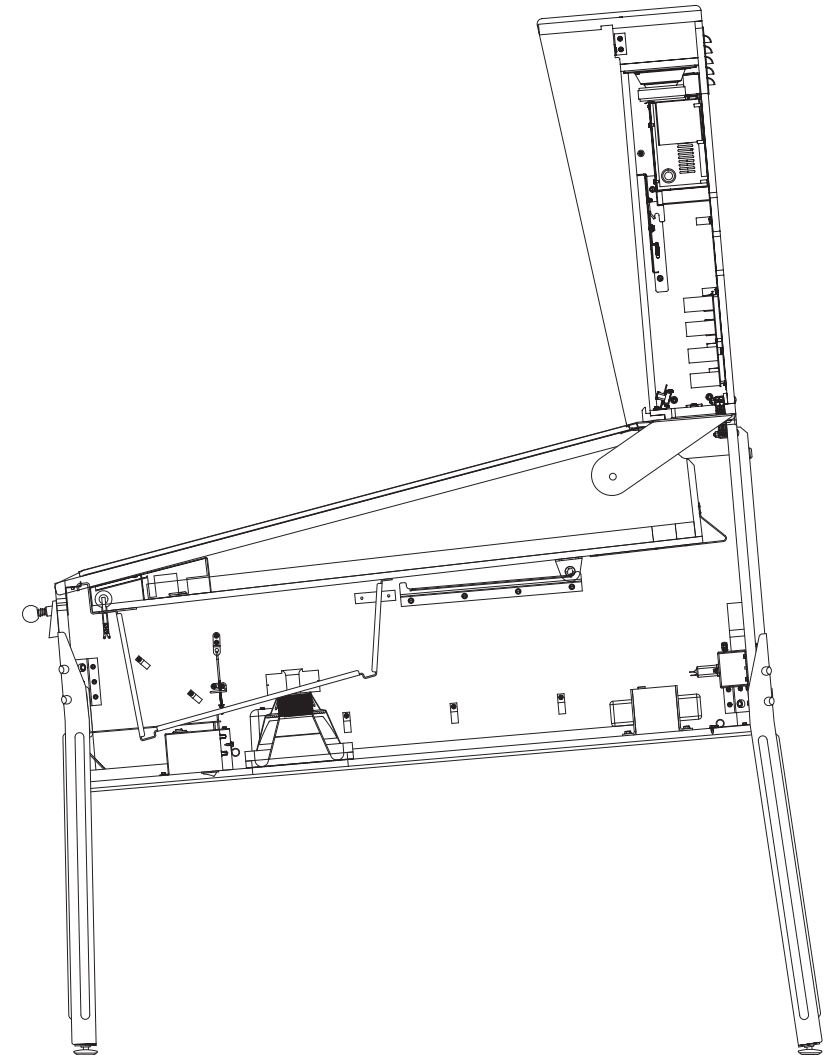

**Figure A9. Removing the playfield glass.**
**10)** You will find the coin door keys attached to the ball shooter, on the front of the game. Cut them loose with a pair of wire cutters. Remove the playfield glass: 1) open the coin door, 2) slide the yellow lockdown bar lever to the left, 3) lift the lockdown bar straight up and out, 4) CLOSE AND LOCK THE COIN DOOR (to prevent scratching of playfield glass), then 5) slide the playfield glass off of the front of the cabinet (see figure A9). Carefully set the glass aside.